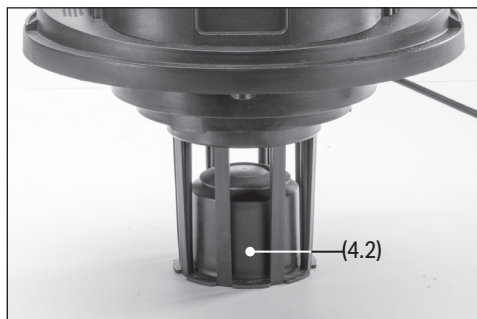

Fig. 8
- The vacuum is fitted with a float valve (4.2) that will cause the motor to work harder and become noisier when the maximum liquid level is reached. Empty the tank. (Fig. 8).